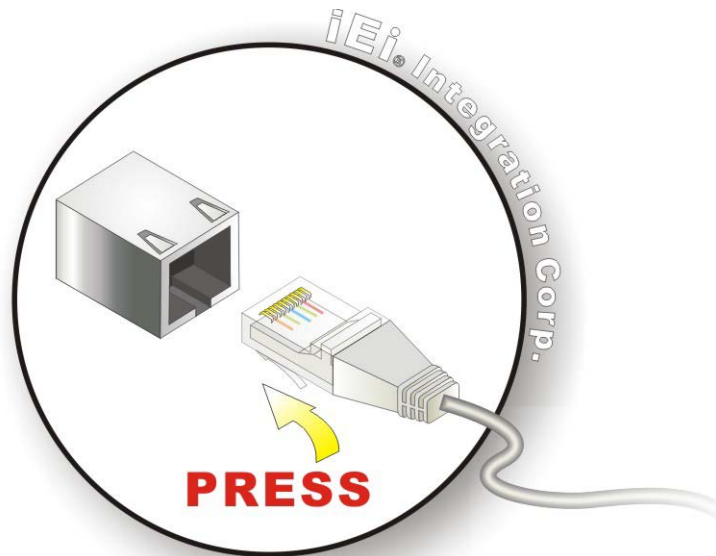

Figure 3-18: LAN Connection
Step 2: Align the connectors. Align the RJ-45 connector on the LAN cable with one of the RJ-45 connectors on the TANK-610-BW. See **Figure 3-18**.